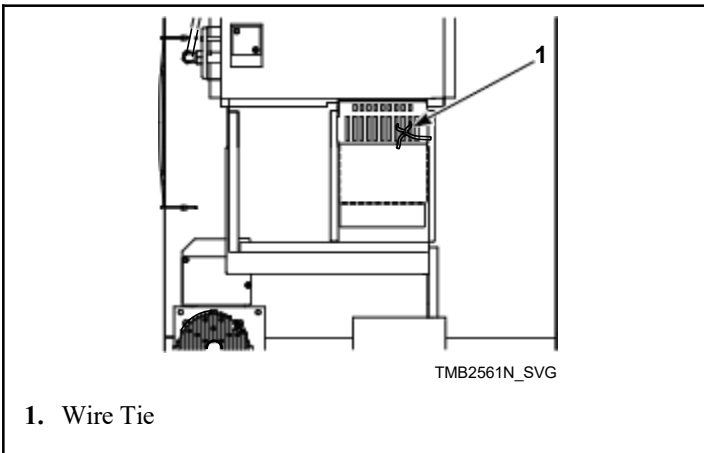

Figure 12
2. Remove and discard wire tie from the airflowswitch so it can swing freely. Refer to Figure 12 .